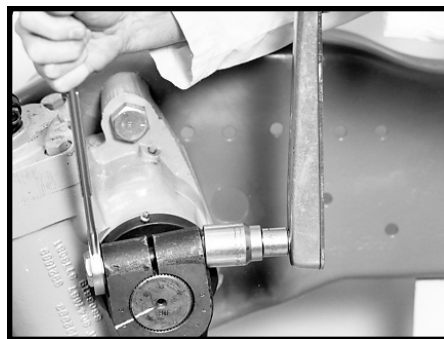

Figure 20
- 1.14 Insert the pitman arm clamp bolt and nut assembly, using a 3/4-16 grade 8 bolt. SEE FIGURE 20. If the bolt is lubricated or plated, torque its to 300-320 ft. lbs. (407-434 N m). If dry and unplated, torque to 380-420 ft. lbs. (515-569 N m).